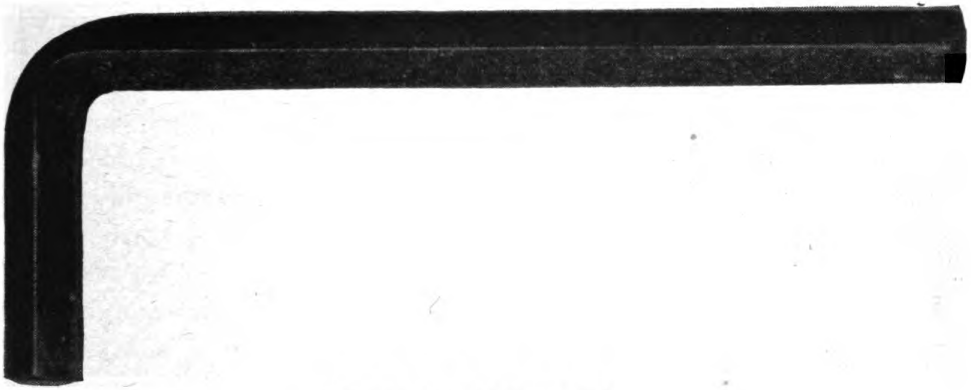

Figure 8. Allen wrench.
(5) *Headless hexagon setscrew wrenches (also called Allen wrenches)* are merely six-sided bars in the shape of an L. (See fig. 8.) They range in size from  $\frac{3}{64}$  to  $\frac{1}{2}$  inch. They fit into hexagonal recesses, usually in setscrews.